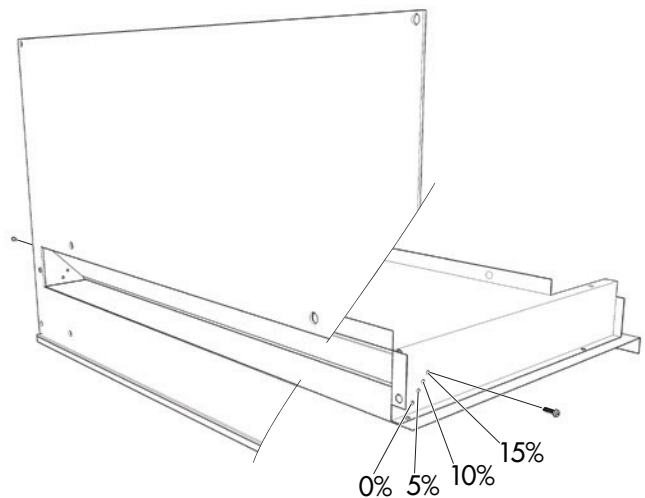

Figure 6b. Fresh Air Hood Damper for AVPA12
1. On single units, pull the low voltage wiring (e.g., 18 gauge 4-conductor Class 2 thermostat wire) from the ComPac® A/C into the thermostat / subbase assembly. See Figure 6b for connections to various thermostats.